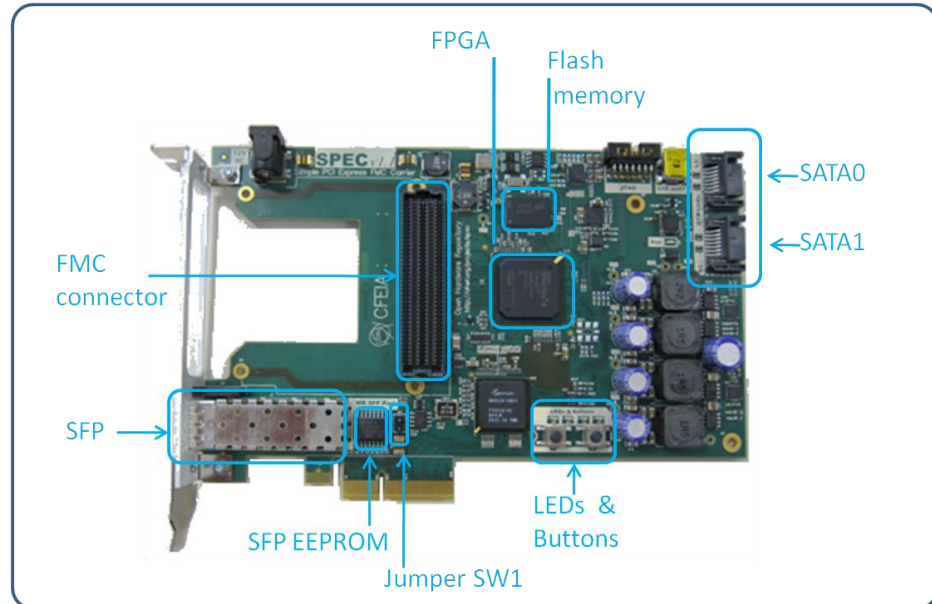

Figure 1: SPEC board top view
- 5) On the SPEC board under test, place the provided jumper on SW1 as figure 1 indicates.